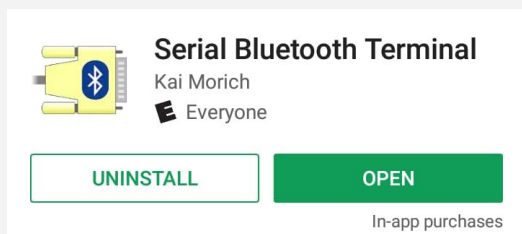

Figure 4
2. Download serial terminal app from the Playstore, or wherever you get your apps from. There may be multiple Serial Terminal apps, the one we have used and succeeded with can be seen in figure 4.